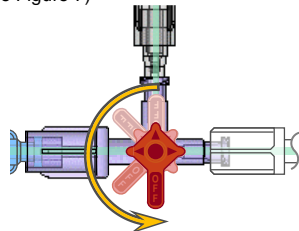

Figure 7 – Resume Savings
- b. To allow contrast saving to resume, orient the DyeVert Power XT Stopcock such that it is ON to both the *Valve Selection Stopcock* and the catheter. (See Figure 7)